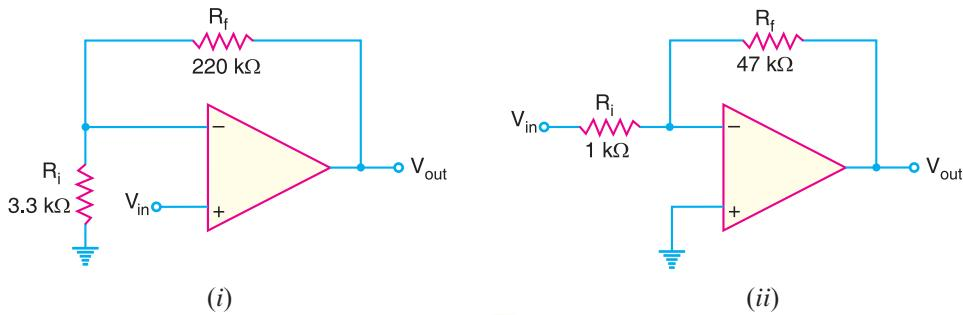

Fig. 25.61
**Example 25.36.** Determine the bandwidth of each of the amplifiers in Fig. 25.61. Both OP-amps have an open-loop voltage gain of 100 dB and a unity-gain bandwidth of 3MHz.
(i) For the noninverting amplifier shown in Fig. 25.61 (i), the closed-loop voltage gain ( $A_{CL}$ ) is
(ii) For the inverting amplifier shown in Fig. 25.61 (ii),